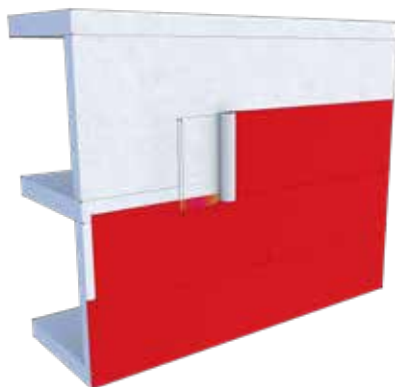

Fig.01: Horizontal installation
4. Starting at corner; peel back release paper by approx 150mm (Fig. 01).